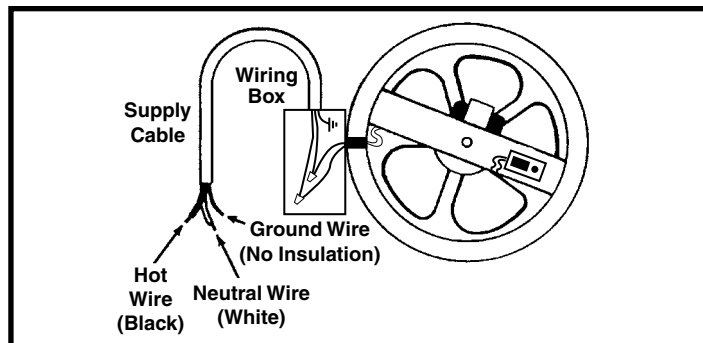

Figure 8. Wire Connections
- b. Connect HOT wire to BLACK lead and NEUTRAL wire to WHITE lead. Secure connections with suitable wire nuts. See Figure 8 (page 4).